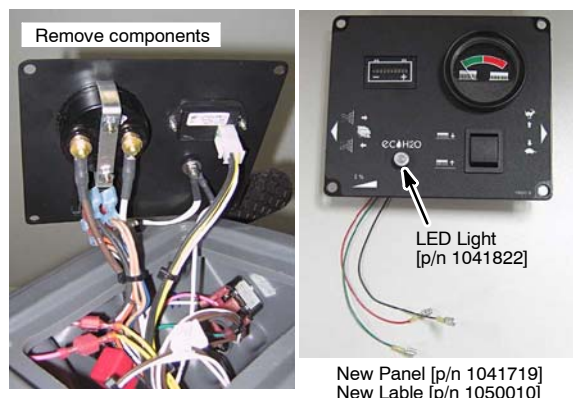

Fig. 17
2. Remove the components from the upper control panel (*take note of wire connections before removing*). Using new panel [p/n 1041719] and label [p/n 1050010], re-install components (Figure 17). Install *ec-H2O* LED light [p/n 1041822] as shown.